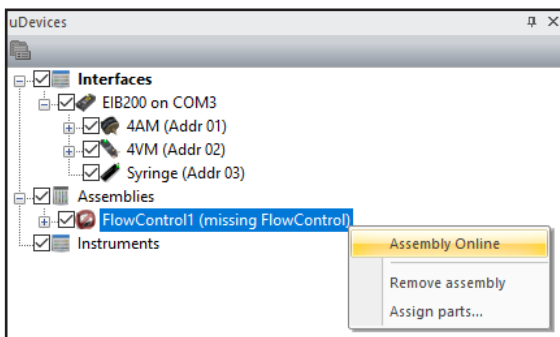
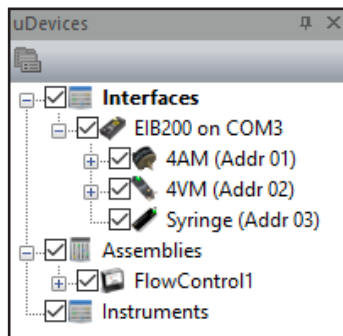

Fig. 10
Fig. 11
11) In the **uDevices panel**, right-click on the flow controller again. This time, select **Assembly Online**. This will remove the red slashed circle (Fig. 10 & Fig. 11).